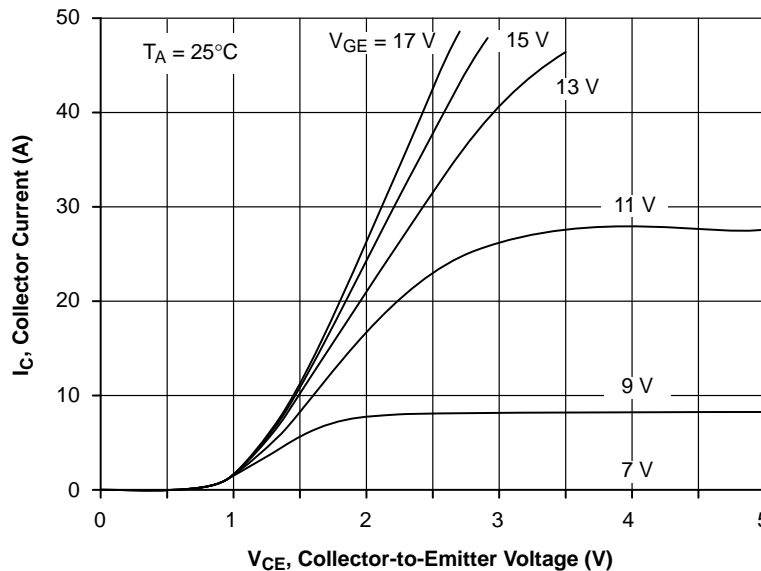

Figure 1. Output Characteristics of a 15 A, 600 V IGBT
1. V_{CE} variation – Unlike a MOSFET that gets fully enhanced at relatively low gate voltage (in most MOSFET output characteristics, there is minimal gain once V_{GS} crosses 10 V), the output/saturation characteristics of the IGBTs show continuing dependence on the V_{GE} voltage. This is best illustrated in the attached Figure 1 from an IGBT datasheet. As shown in the curves, there is a significant gain to be had in the saturation voltage (V_{CE}), as the V_{GE} value is increased beyond 11 V for same collector current value. In fact, higher current is not supportable until V_{GE} is increased above 13 V. Given high current applications, even a 0.1 V improvement in V_{CE} translates into power savings of 1 W for every 10 A of collector current.